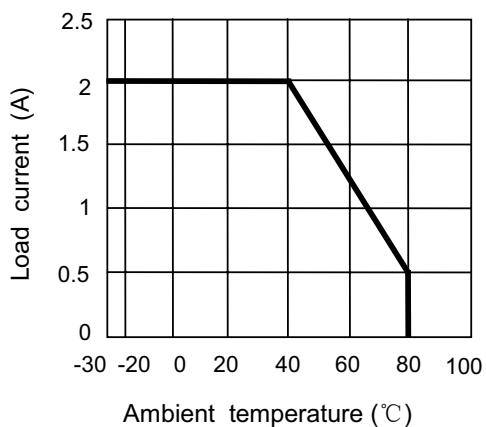

Figure 1 Maximum load current vs. ambient temperature
Load current range ⁽²⁾	0.01- 2Arms (See Fig.1)
(2) See figure 1.